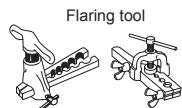

Fig. 4
- 4) Flaring work (Fig. 4, 5). Firmly hold copper pipe in the dimension shown in the table. Select A mm from the table according to the tool selected.